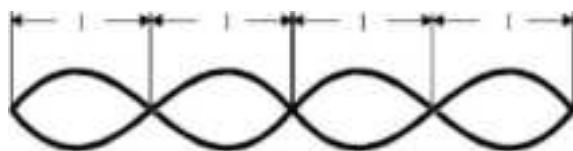

Figure 4 Wiring in iTraMS
- For CAN wiring, it is recommended to use a twisted pair (Figure 4).
- Twisted pair wires should be used for CAN signals (Figure 4).